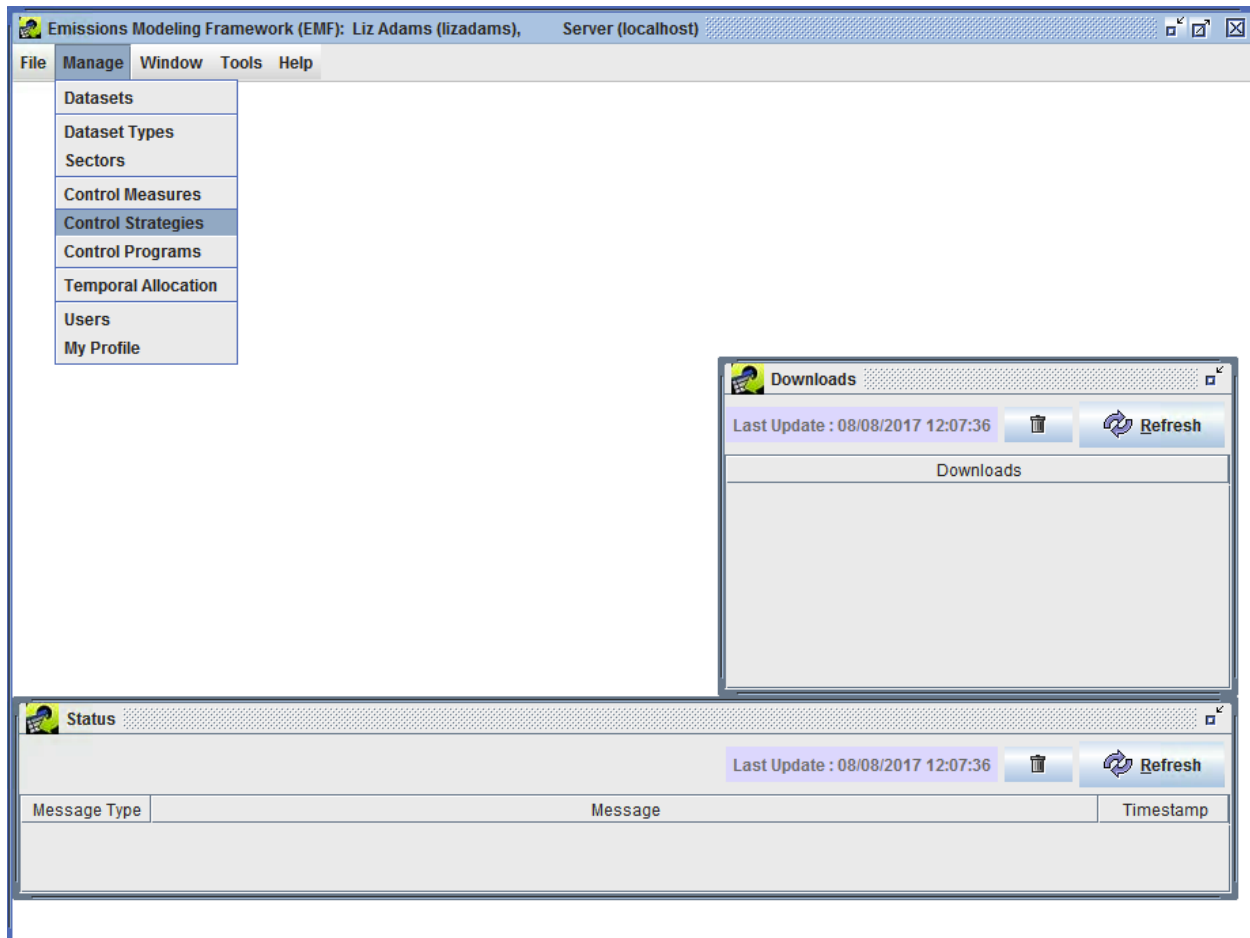
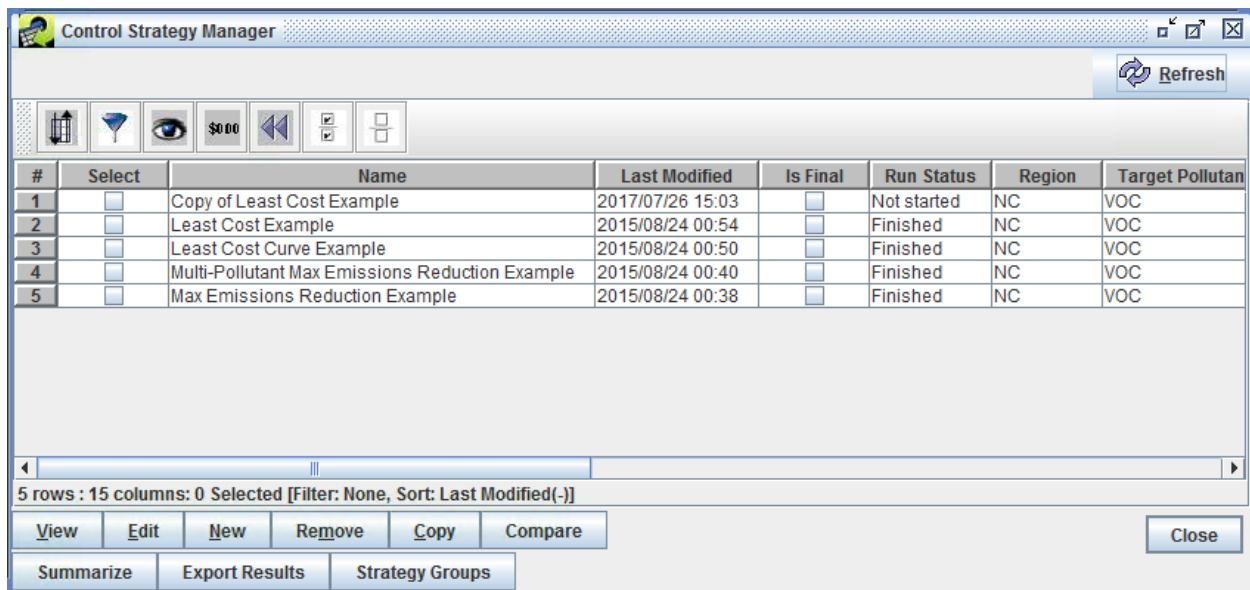

Figure 4.2: Manage Menu of EMF Main Window
Figure 4.3: Control Strategy Manager Window
**Step 3-1: Open Control Strategy Manager.** To open the Control Strategy Manager, choose **Control Strategies** from the **Manage** menu on the EMF main window (Figure 4.2) and the Control Strategy Manager will appear (Figure 4.3).